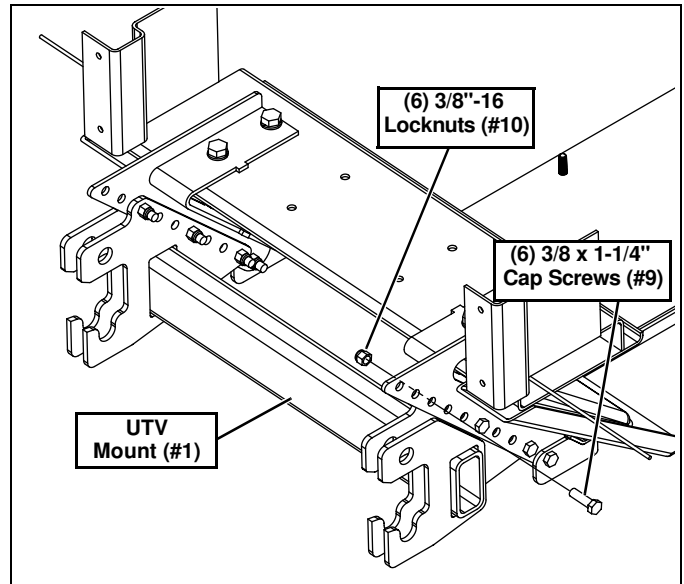

Figure 9
11. Secure the UTV Mount (#1) to both Bracket Weldments (#2 and #3) using (6) 3/8"-16 x 1-1/4" Cap Screws (#9) and (6) 3/8"-16 Lock Nuts (#10). (See Figure 9.)